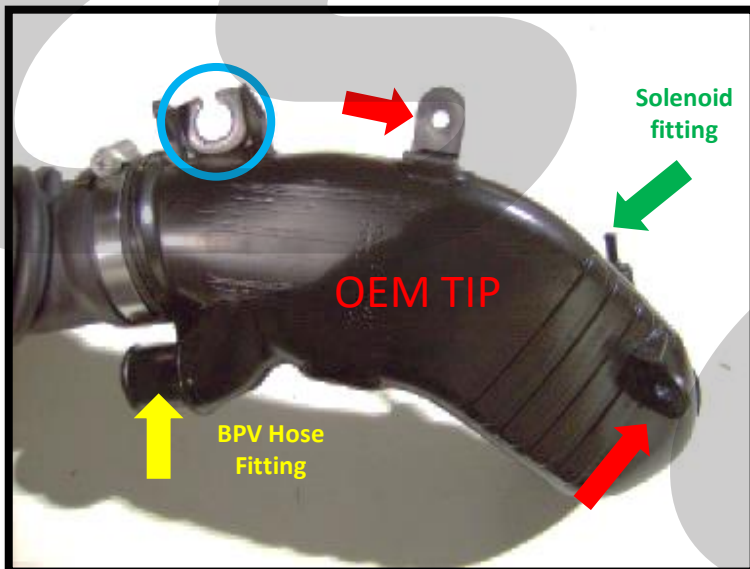

Figure 3b
- b) **Remove the 10mm nut** that holds the stock turbo inlet pipe in place (blue circle in Figure 3b).
- c) **Remove the two wiring harness clips (red arrows in Figure 3b)** located on the stock turbo inlet pipe.
- d) Using needle nose pliers, release the small spring clamp from solenoid fitting on the OEM TIP (see the green arrow in Figure 3b on the previous page). Then remove the small hose from this same fitting.